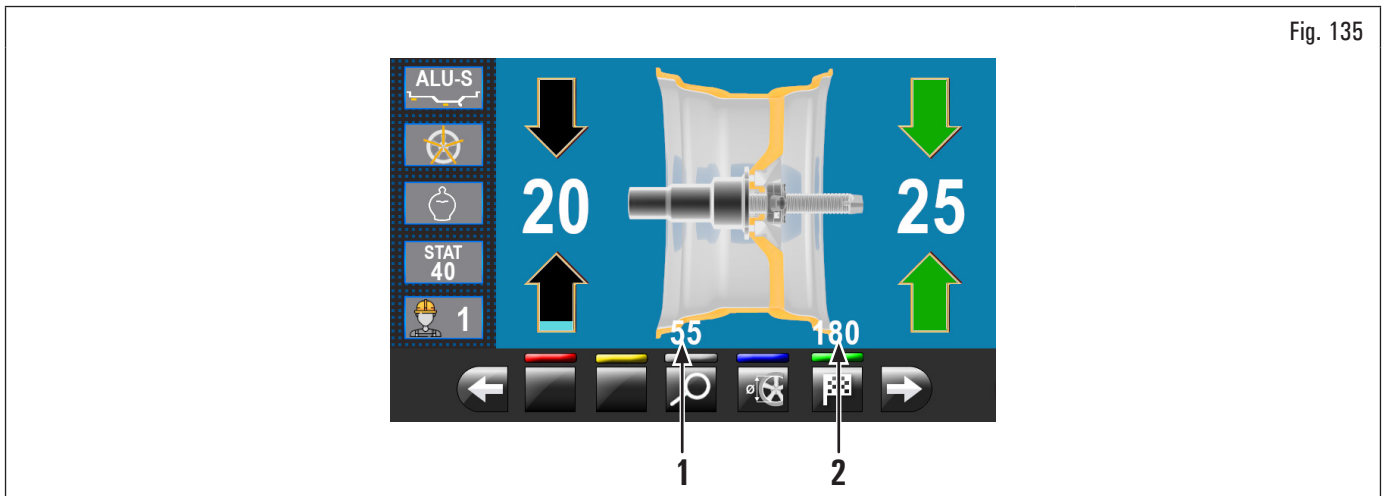

Fig. 135
In this screen page, in addition to the information of the detected unbalance, there are measurements in mm where you must remove the gauge arm (Fig. 135 ref. 1-2) to apply the weights inside the rim.